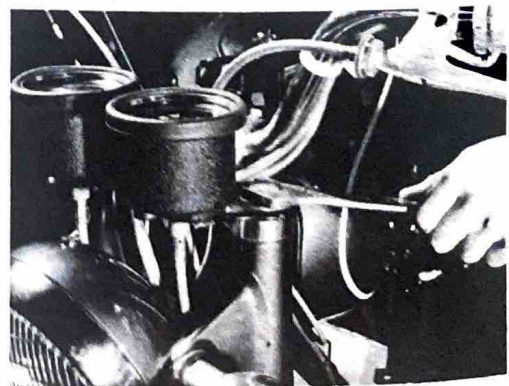

Fig. 5-6-2
- 2) Remove the inner tube cap bolt. (Fig. 5-6-2)